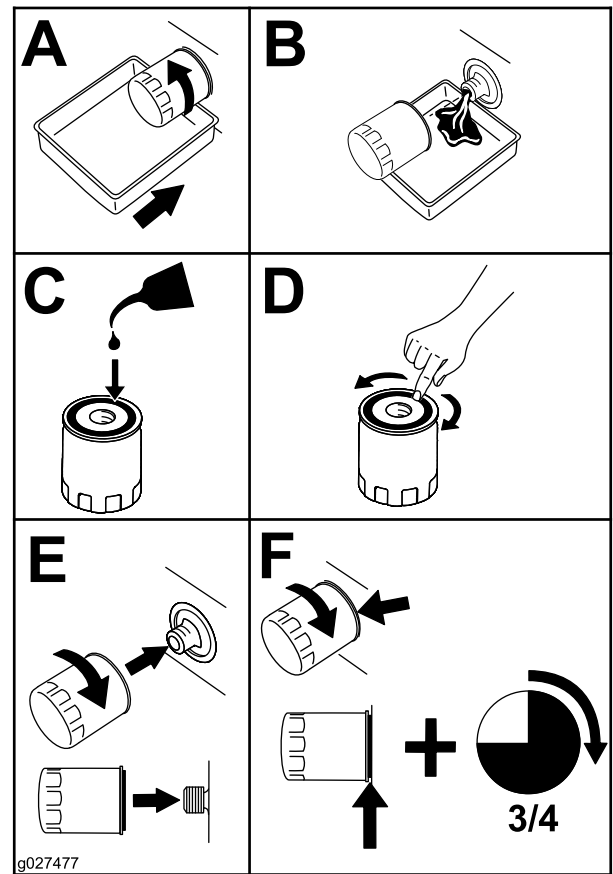

Figure 46
5. Change the engine-oil filter (Figure 46).